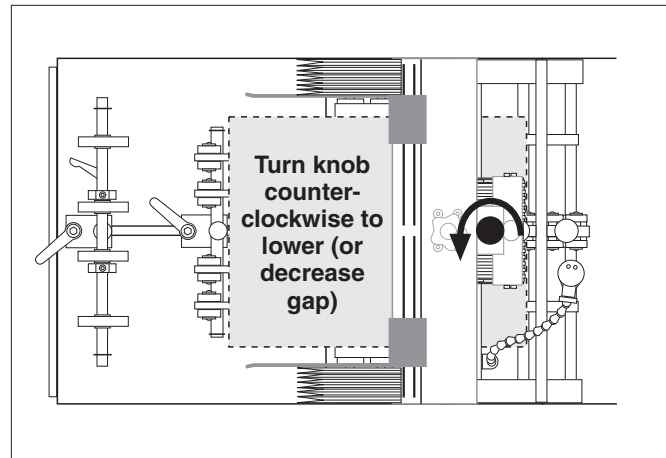

Figure 2-3. Adjusting Gate Assembly for Correct Gap
3. Turn the gate assembly adjustment knob until the product has the desired drag; clockwise to increase gap, counterclockwise to decrease gap (Figure 2-3).